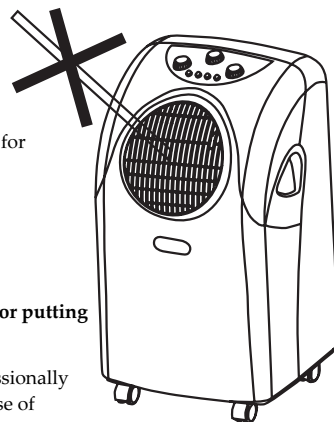

Fig. 2
- Do not cover or obstruct the appliance inlet or outlet grilles (Figure 2).